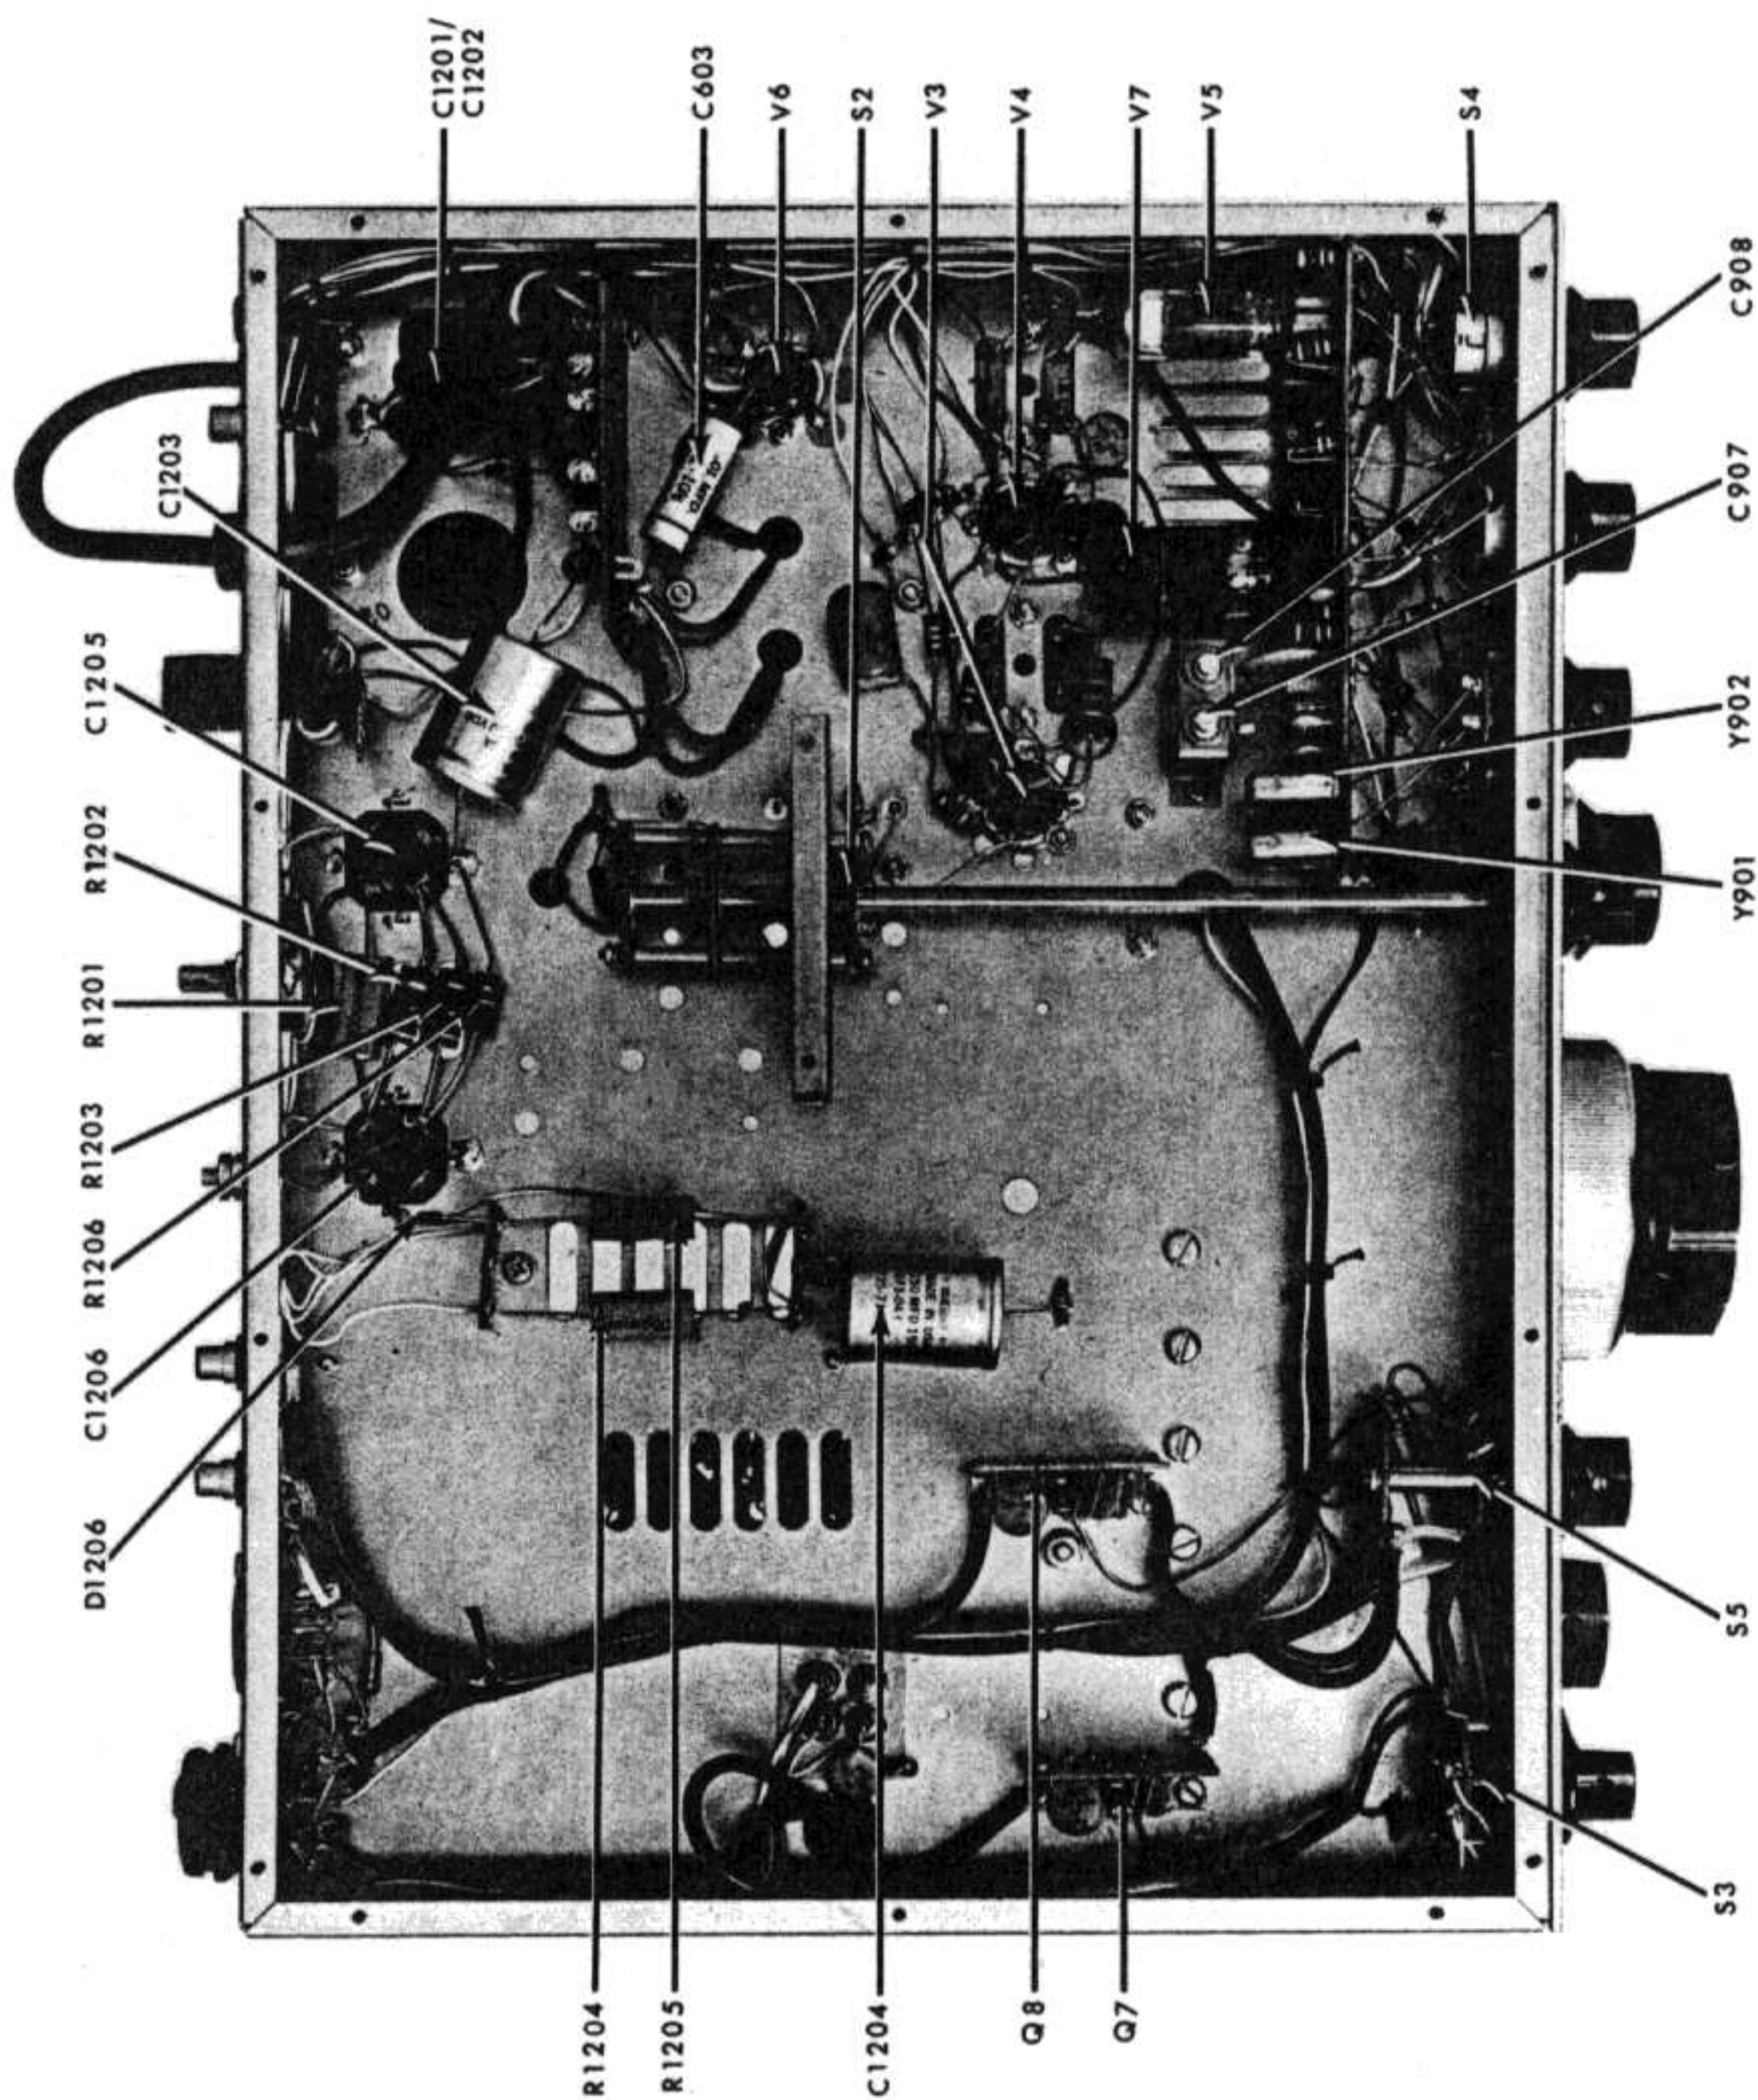

FIGURE 8. BOTTOM VIEW OF 600-R
6. If the 5500 kc **BFO** oscillator crystal is off frequency, an audible signal will be heard in the speaker of the receiver. Adjust C907 until the BFO is zero-beat with the calibrator (see Figure 8).
7. Since the **OPPOSITE BFO** crystal is 5503.3 kc, it cannot be adjusted with the 100 kc calibrator. To adjust the **OPPOSITE BFO** crystal frequency, it is necessary to use either a frequency counter; a 5503.3 kc crystal controlled frequency input; or have a receiver that has been accurately calibrated and can be tuned to exactly 5503.3 kc. Whichever method is used, adjust the receiver 5503.3 kc **OPPOSITE BFO** crystal frequency using C908 (see figure 8).